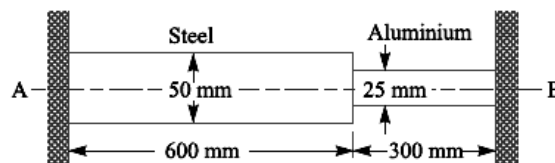

Figure 2
- (c) A composite bar made of aluminium and steel is held between the supports as shown in figure 2. The bars are stress free at a temperature of 37°C. What will be the stress in the two bars when the temperature is 20°C, if (a) the supports are unyielding; and (b) the supports yield and come nearer to each other by 0.10 mm? **07**